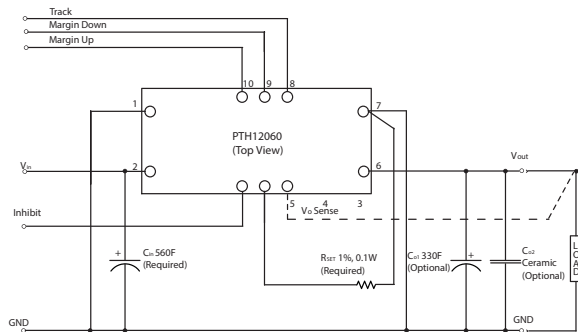

Figure 5 - Standard Application - All Models
8. The pk-pk output ripple voltage is measured with an external 10 μF ceramic capacitor. See Figures 5 and 8 for Standard application schematic.